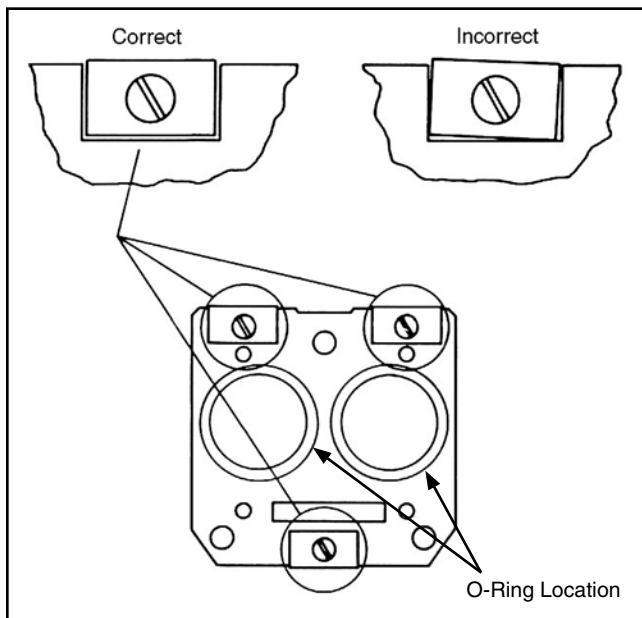

Figure 8
5. Examine the two o-ring seals on the bottom side of the block (see Figure 8). Replace if damaged. If damage has occurred, ensure that the proper o-ring elastomer is chosen to fit the liquid application.
1. When the bands are fastened to the seal block, they should be in line with the seal block's edge (reference Figure 8). This allows the bands to “rock” square with the seal block by lying completely flat against it. If the bands are not in line with the edge of the seal block, they will tend to rock at an angle and may not lie flat on the molded seals. If found in this condition the bands must be adjusted or replaced.